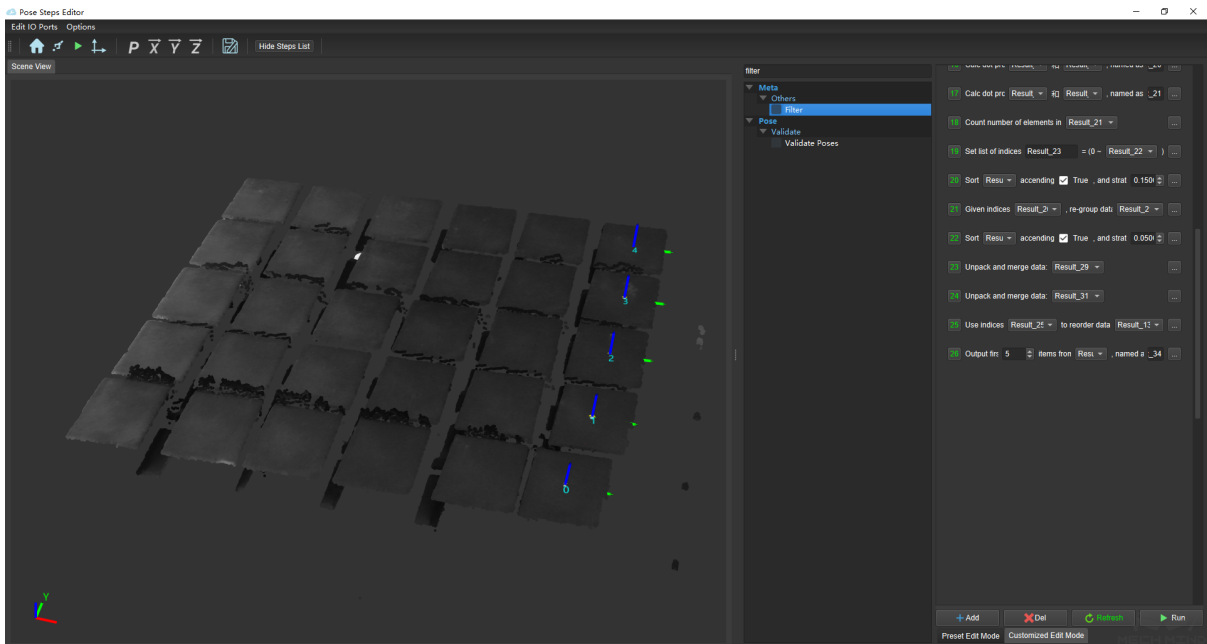

figure 9 Edit pose in Customized Edit Mode
Step 4. By using the production mode (custom), add the output quantity limit: 1. Click and get into the custom editing mode, 2. Display the step library, 3. Add the corresponding step, 4. Select the number of displayed outputs, 5. Fill in the limit number, 6. Run the programme to preview the results. The result is shown in *figure 9*.